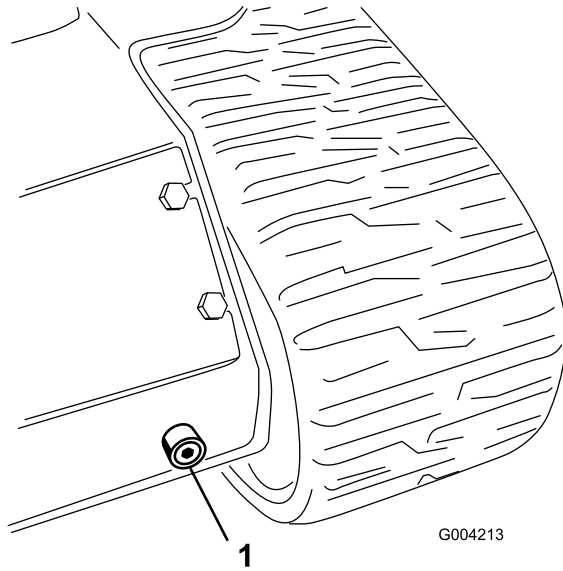

Figure 57
6. Place a large drain pan (capable of holding 15 US gallons) under the drain plug on the front of the traction unit (Figure 57).
7. Remove the drain plug and allow the oil to drain into the pan (Figure 57).